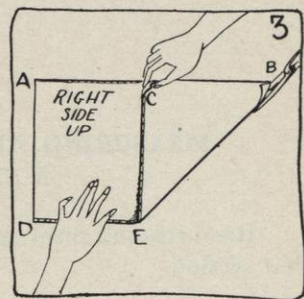

FIG. 3.
- d. Take the lowest right-hand corner *C* and turn it up and over the right side of the material, so that it touches the edge *A B*, forming a right angle (see Figure 3). In full width material, *A B* and *D C* are selvages, therefore the turned-over selvage edge *D C* is exactly parallel to the crosswise threads of the material.
- a. Cut very evenly on the fold *E B*, which is the true bias edge (see Figure 3).